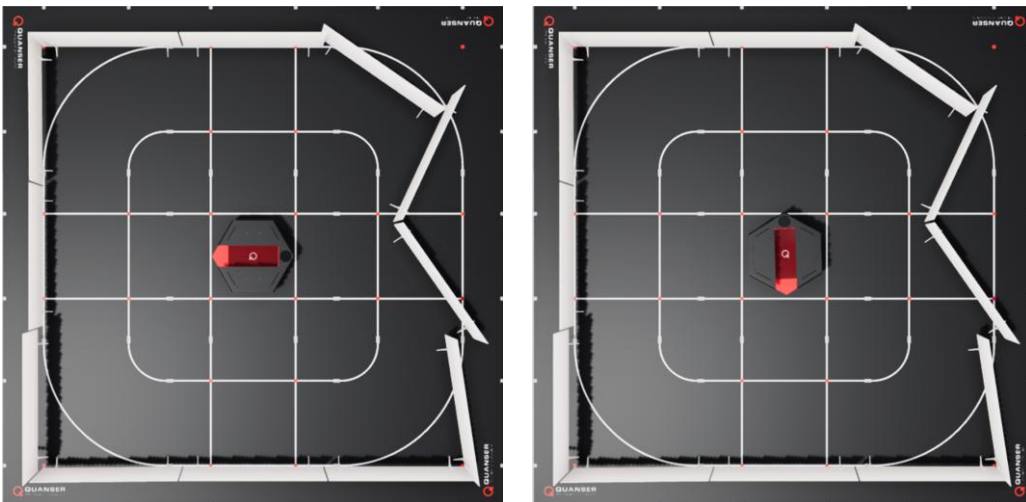

Figure 3. Top view of QBot facing direction C (left) and direction D (right)
2. Consider a situation, shown in Figure 3 below, where the QBot: